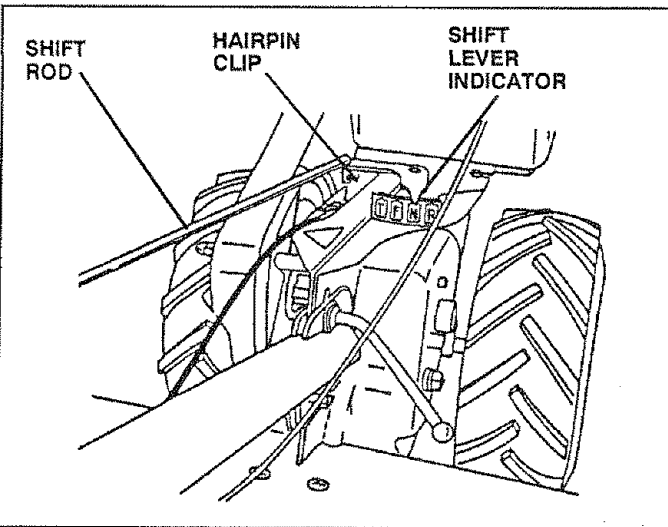

FIG. 7
- Make sure shift lever indicator is in "N" position (See Fig. 7)